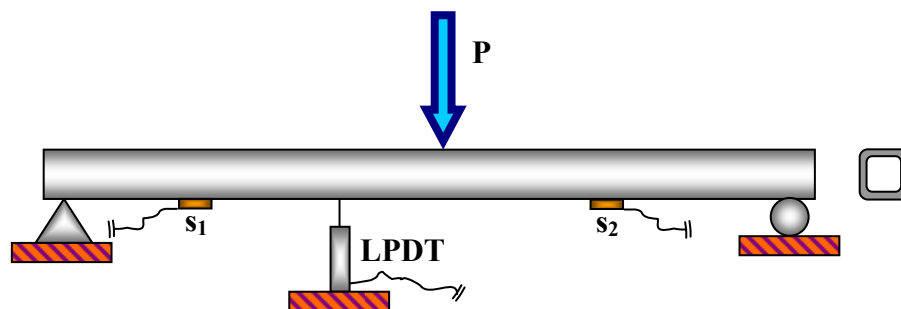

Fig. 1 Lab Setup For Steel Beam Test
1. Set the beam up as shown in Fig. 1. Identify strain gauges (s_1 , s_2 , etc.) and note down the type, length, resistance and calibration constants, if any. Note the calibration constant for the load cell, its type and range, etc.
4. Start the data acquisition (DA) program and create an electronic file on the computer hard drive for data logging. Using the DA program, set the initial values of strains and deflection to zero at no load. Put the DA program on "monitoring mode".